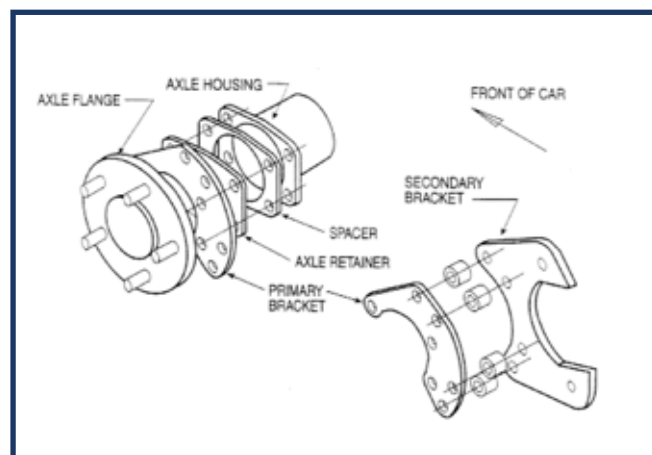

Figure 1
- Take the supplied bolts, and install those on the primary bracket. Use the spacers, that are also provided, and install those onto the bolts. (See Figure 1)